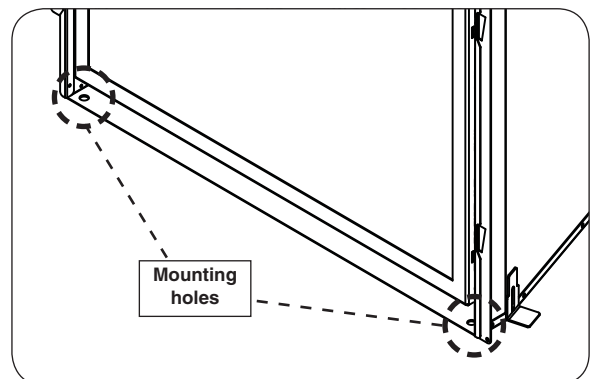

Fig. 30-3 Secure direct vent to fireplace floor
1. Locate the two $\frac{5}{16}$ " holes on the far left and right front floor of the unit. Using appropriate mounting hardware for your fireplace construction, secure the unit to the floor. See Fig. 30-3.